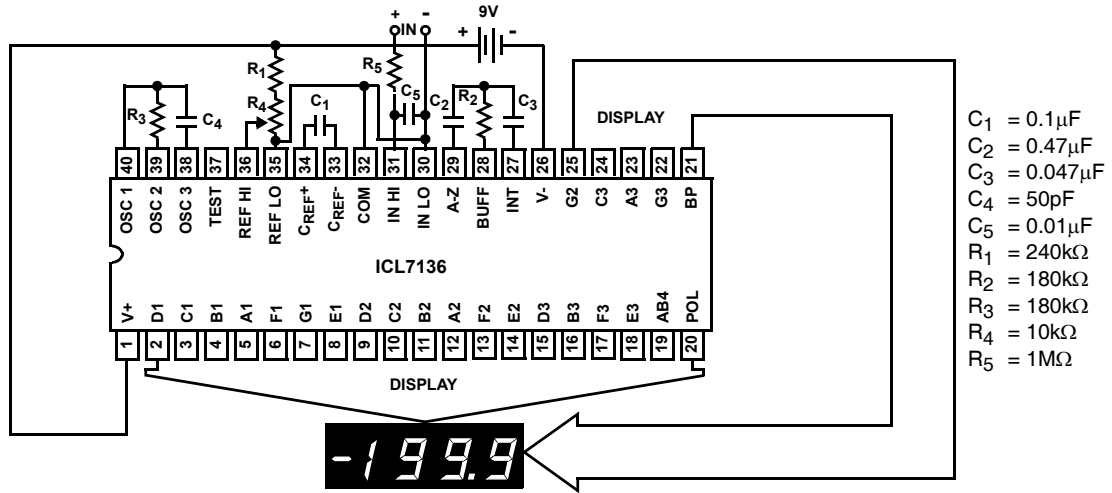

FIGURE 1. ICL7136 TEST CIRCUIT AND TYPICAL APPLICATION WITH LCD DISPLAY COMPONENTS SELECTED FOR 200mV FULL SCALE
3. Unless otherwise noted, specifications apply to the ICL7136 at  $T_A = 25^\circ\text{C}$ ,  $f_{\text{CLOCK}} = 48\text{kHz}$ . ICL7136 is tested in the circuit of Figure 1.